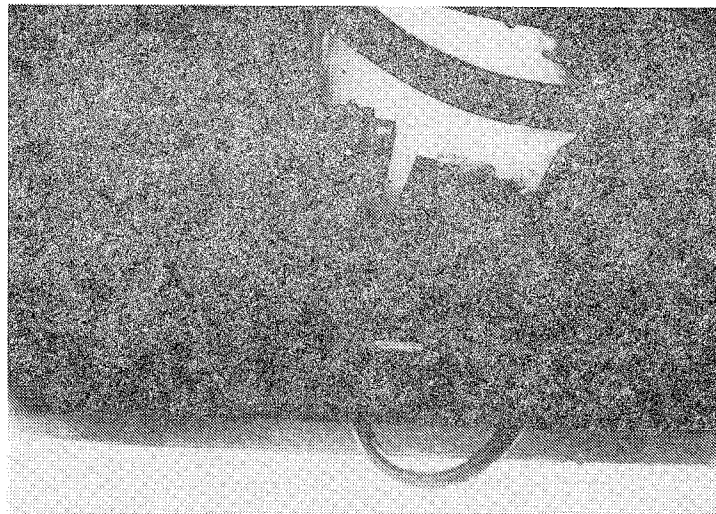

FIG 1 - PROXIMITY SWITCH AND ACTUATOR MAGNET
- a. Attach proximity switch and mounting bracket to LRV Front Lift Frame as shown in Figure 1.
- b. Attach actuator magnet to base of LRV Hook Arm to match the position of the proximity switch (see Figure 1). Both the proximity switch and the actuator magnet have adjusting slots that enable adjustment to match the yellow line position on each hook arm.